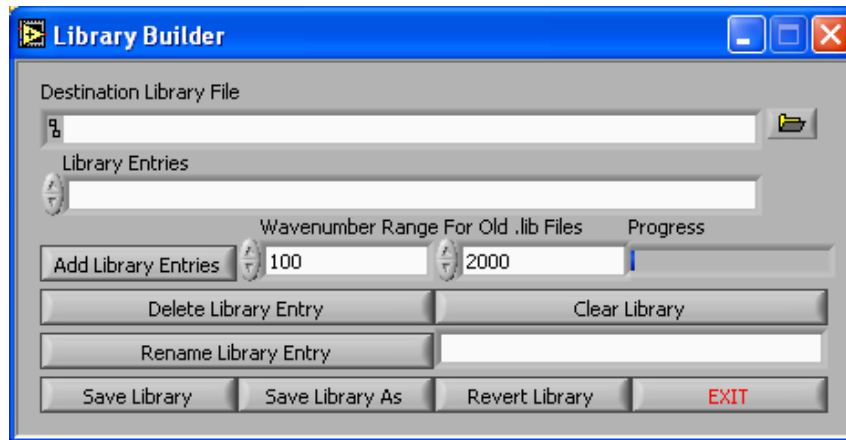

Fig. 43 (Library builder software)
- 1) Open library builder software (**Fig 43**).